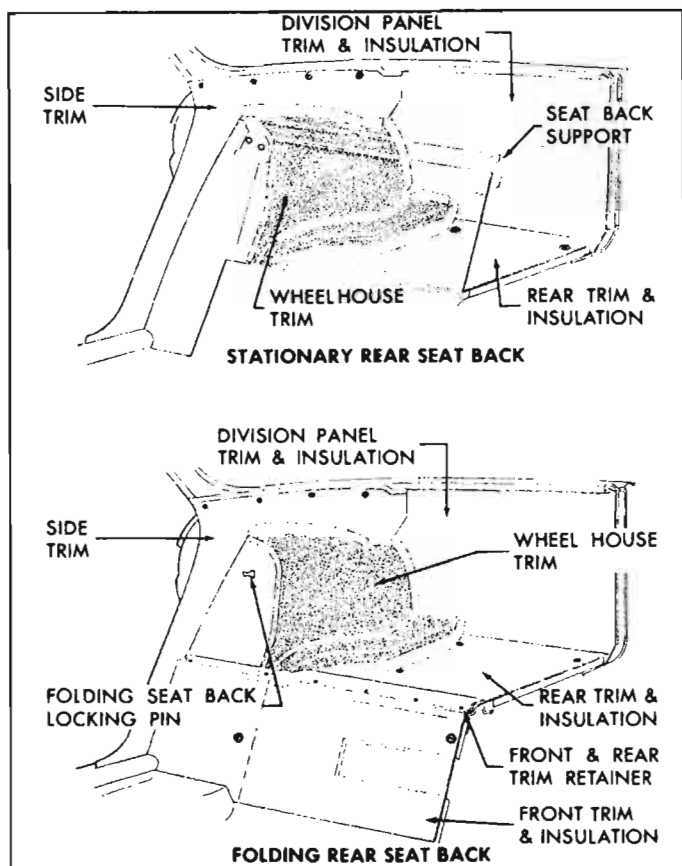

Fig. 10-78—Rear Seat Compartment Trim
The rear seat compartment trim consists of several pieces of trim secured in position by cement and/or finishing screws (fig. 10-78). If original trim is to be reinstalled, care should be exercised in detaching trim at cemented locations to prevent damage to trim.
The rear seat compartment side trim is cemented to body panels and is also secured by four (4) finishing screws across the top of the trim (fig. 10-78).
The rear seat compartment rear trim and insulation assembly is secured by five (5) screws and a retainer across the front of the trim (fig. 10-78).
The rear seat compartment front trim and insulation on bodies equipped with folding rear seat is secured across the top by a retainer (fig. 10-78).
The rear seat compartment division panel trim and insulation is secured under the rear trim and the upper end is retained by the upper flange of the division panel (fig. 10-78).
To remove wheelhouse trim on styles equipped with stationary seat back, remove rear seat back and support and rear trim and insulation, then detach upper portion of side trim and remove division panel trim and insulation (fig. 10-78). On styles equipped with folding seat back, remove front and rear trim and insulation assemblies and folding seat back locking pin, then detach upper portion of side trim and remove division panel trim and insulation (fig. 10-78). Carefully detach the wheelhouse trim from cemented areas of the wheelhouse panel and remove trim from body.